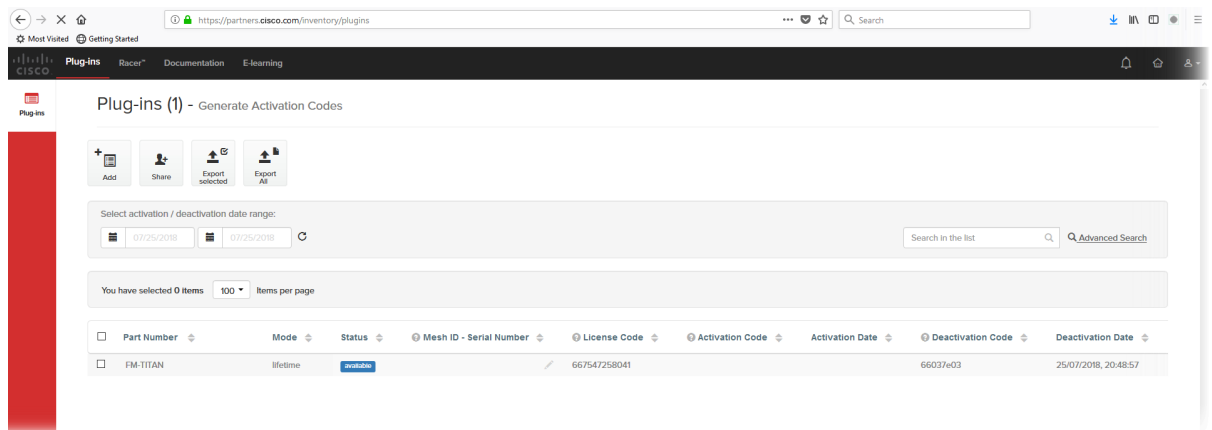

Figure 70. Partner Portal (Plug-ins web page)
- The Plug-ins web page will be shown (Figure 70 \(page 150\)).